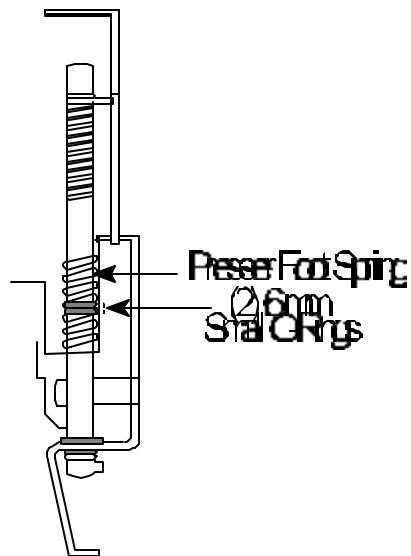

Figure 5
See Figure 5.
13. While standing directly in front of sewing head, grasp Thread Apron with both hands and gently hold right side in. With left hand pull Thread Apron up and out. (A small flat area is on outer edge of set screw hole which enables Thread Apron to be removed and replaced easily without breaking). See *Figure 5*.